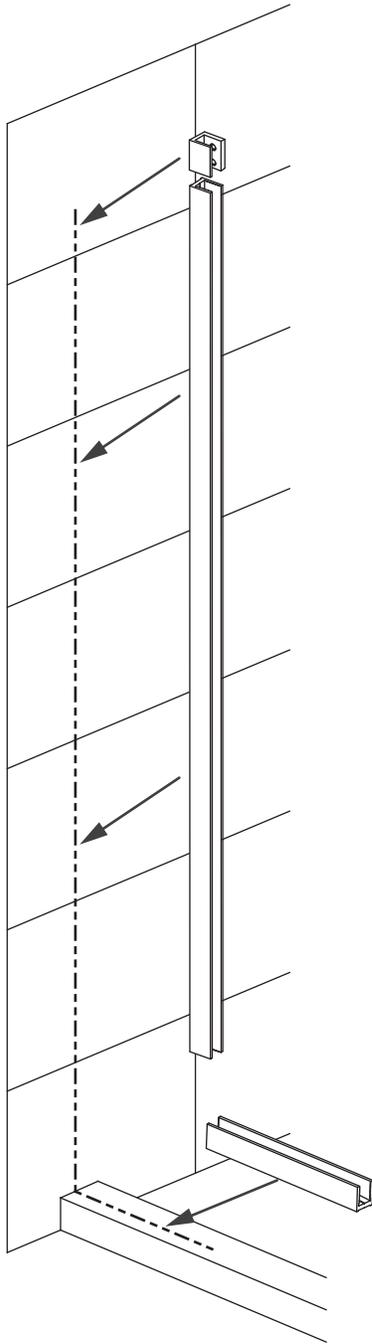

Fig 5
3. Position the U-channels and **Hinge Panel Glass Bracket (#36)** on the centerlines to mark the holes for drilling. **(Fig 5)**